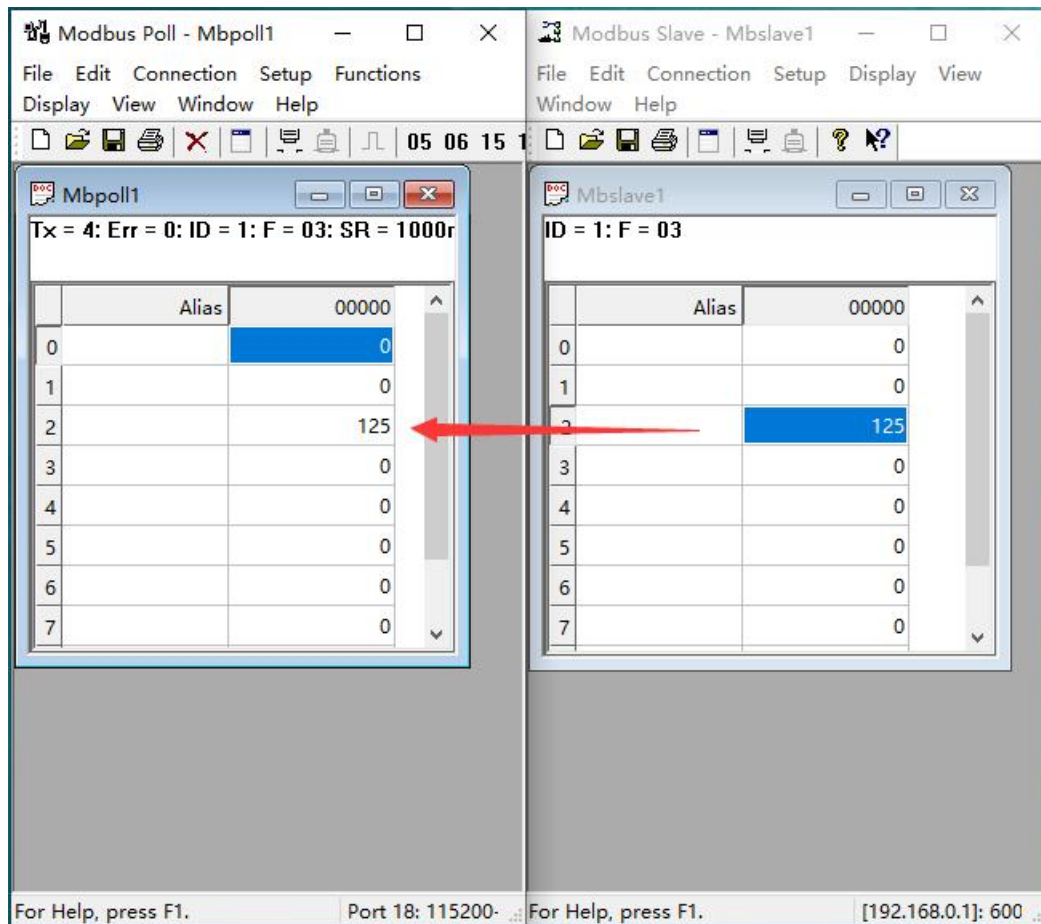

Figure 6-34 MODBUS communication test
7) Click "Connection" to realize the connection, as shown in Figure 6-34.